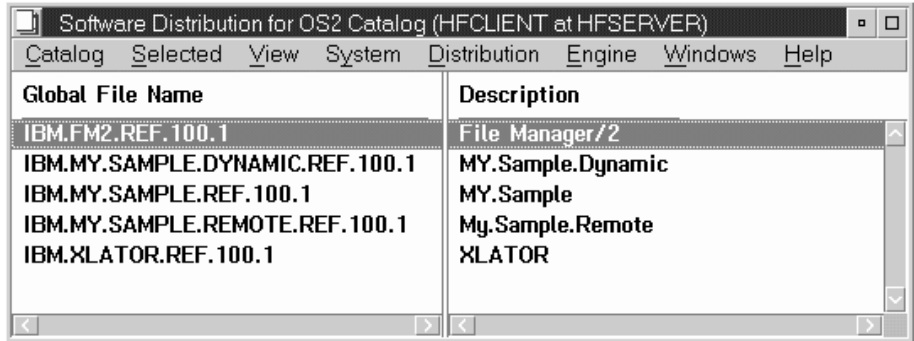

Figure 51. TME 10 Software Distribution for OS/2 Catalog window
- a** From the TME 10 Software Distribution Client for OS/2 window, open the TME 10 Software Distribution for OS/2 Catalog window, as shown in Figure 51 on page 150.